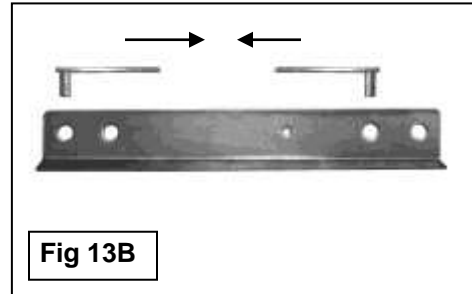

Fig 13B
11. Repeat **Steps 2 & 3** to install the (2) 10mm Bolt Plates and Rear Lock Plate, **(Figures 13B & 14)**.
Insert Bolt Plates with tabs facing each other (See Fig 13B)